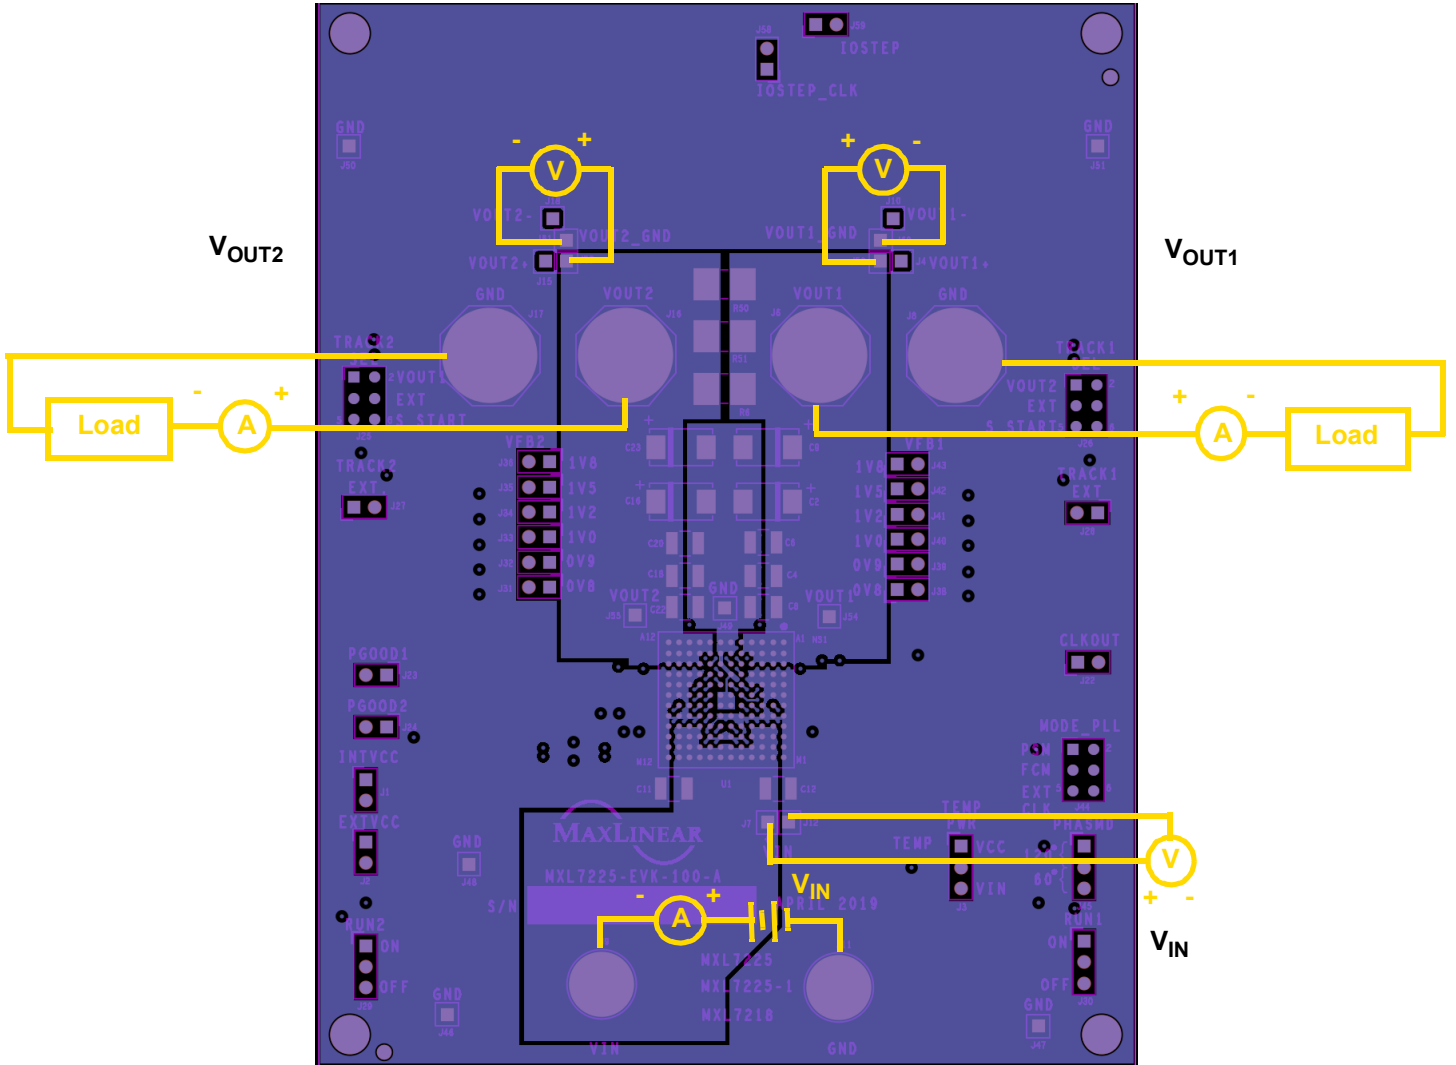

Figure 1: Monitoring V_{IN} and V_{OUT}
2. Connect a turned-off power supply that is within a V_{IN} specification of 4.5V to 16V, (12V typical) to VIN and GND with short, thick leads. Use test pins VIN+ and VIN- to monitor VIN and GND respectively. See locations in Figure 1.
3. For the channel 1 output, connect an electronic load initially set to 0A, that will be no more than the above maximum I_{OUT} (13A), to VOUT1 and GND with short / thick leads. Use test pins VOUT1 (J52) and VOUT_GND (J60) to monitor VOUT1 and GND respectively. See locations in Figure 1.
4. For the channel 2 output, connect an electronic load initially set to 0A, that will be no more than the above maximum I_{OUT} (13A), to VOUT2 and GND with short, thick leads. Use test pins VOUT2 (J53) and VOUT2_GND (J61) to monitor VOUT2 and GND respectively. See locations in Figure 1.